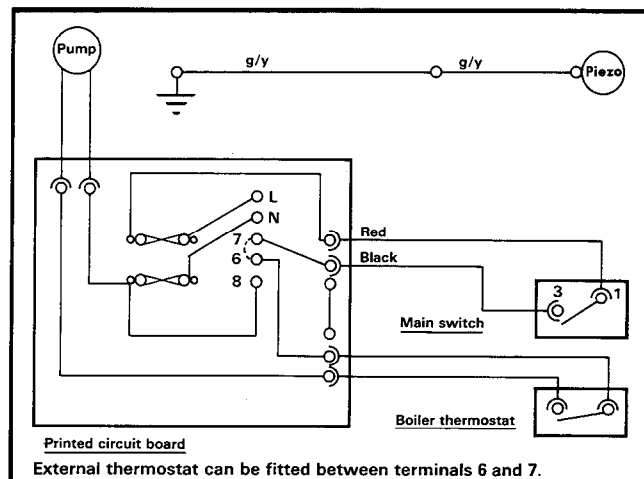

Fig. 8
4.7 Electrical connections (figs. 8, 9 and 10)